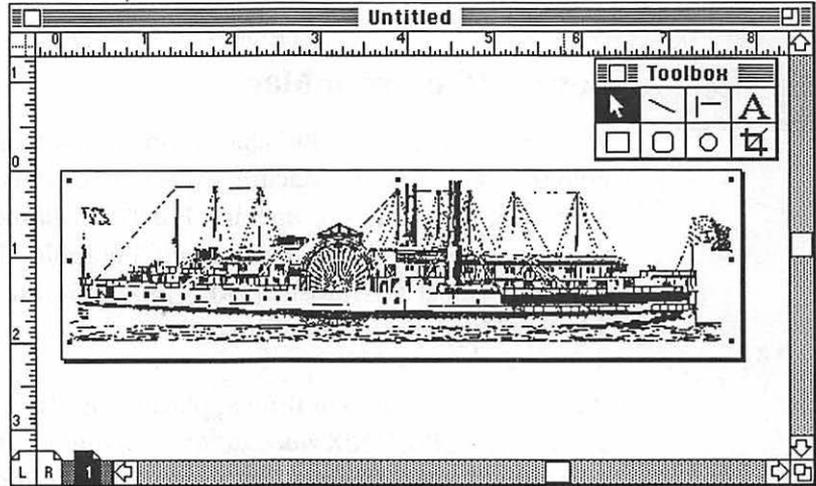

FIGURE 3-38 To use a TIFF or PICT file in Illustrator, first place it in a PageMaker document and create a custom page size only slightly larger than the image.
2. To eliminate excess page area in the **PageMaker EPS** file, create a custom page size that's only slightly larger than the image (Figure 3-38). To do so, first measure the size of the image with **PageMaker's** vertical and horizontal rulers. Then choose the **PAGE SETUP** command, enter the appropriate figures in the **Page Dimensions** text boxes, and select *Tall* or *Wide* orientation as needed.